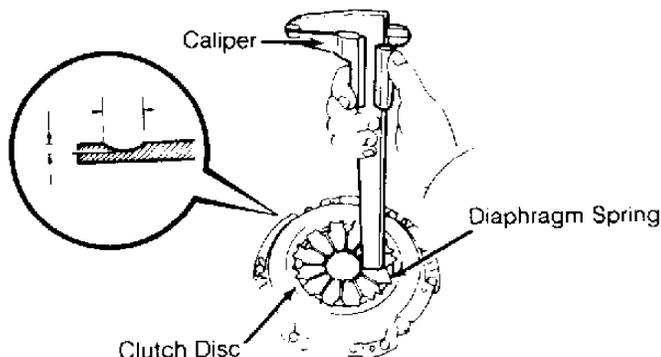

Fig. 5: Checking Diaphragm Spring Depth & Width Wear
4) Using calipers, inspect diaphragm spring for depth and width of wear. See Fig. 5. Maximum depth is .024" (.060 mm). Maximum width is .197" (5.0 mm).